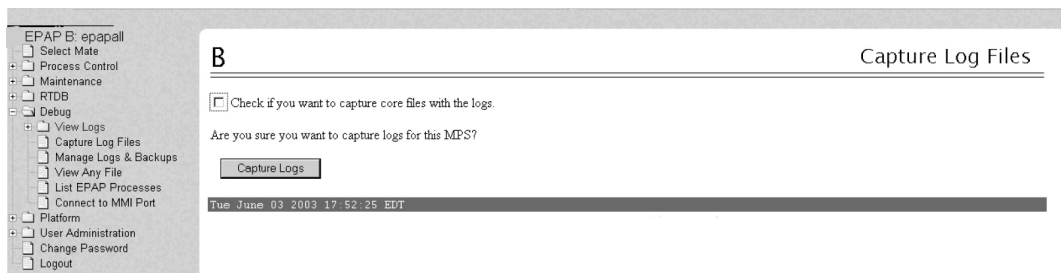

Figure 63: Capture Logs File Screen
4. Deselect (if necessary) the box labeled `Check if you want to capture core files with the Logs`, as shown in Figure 63: Capture Logs File Screen.